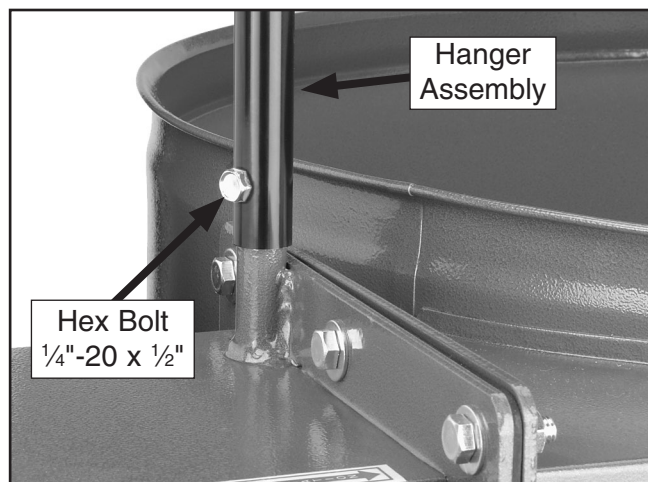

Figure 19. Hanger assembly mounted onto collector (G0671/G0672).
- Mount the hanger assembly on the protruding rod on the collector with one (Model G0671/G0672) or two (Model G0673) 1/4"-20 x 1/2" hex bolts, as shown in **Figure 19**.